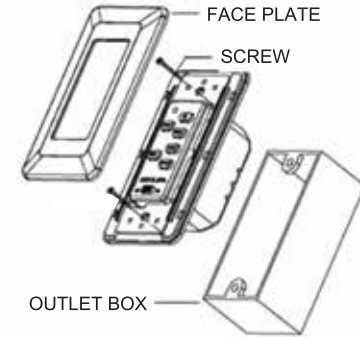

Fig. 14
- Step 1. Remove the existing wall plate and switch from the wall outlet box.(Fig.14)